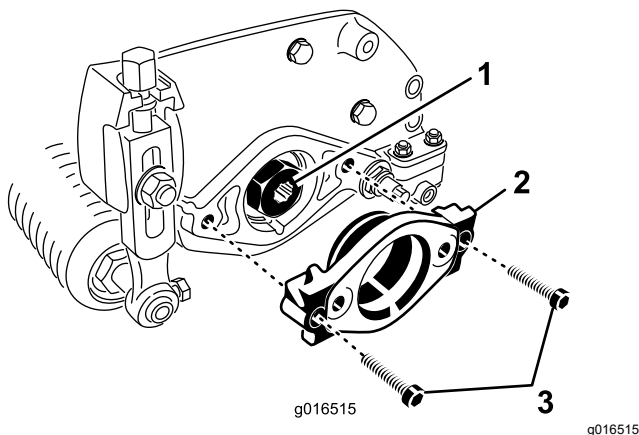

Figure 7
2. Remove the 2 Allen head bolts securing the motor mount to the left end of the cutting unit. Remove the motor mount (Figure 7).
3. Apply grease to the inside diameter of the drive spline (Figure 7).
4. On the left end of the cutting unit, apply a light coating of oil to the O-ring and install the motor mount with the 2 Allen head bolts previously removed (Figure 7). Torque the bolts to 16 to 20 N·m (12 to 15 ft-lb).